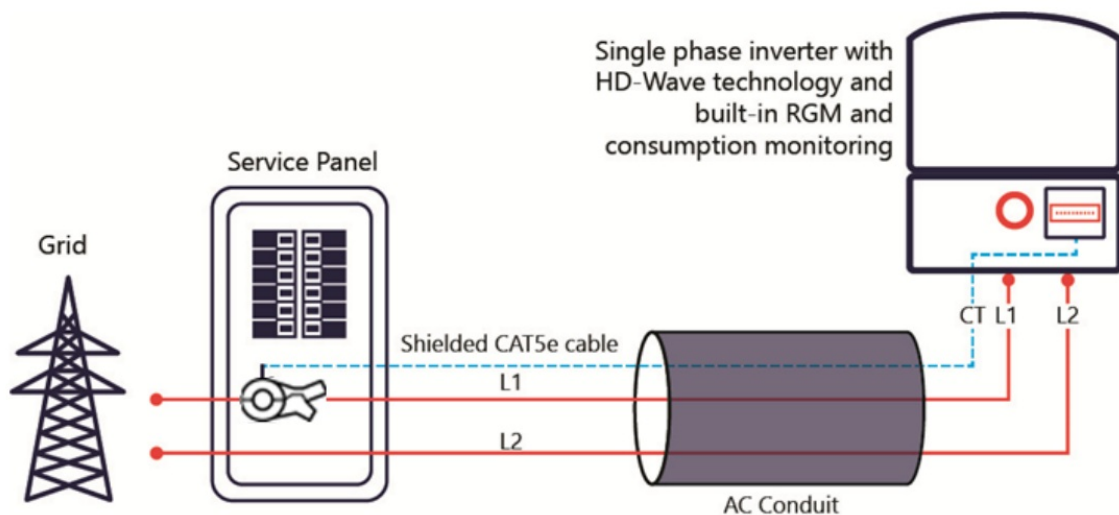

Figure 2: Split Phase Grid without Neutral
- Make sure that only one CT is installed. It should be connected to the L1 CT terminal block, as shown in Figure 2 above.